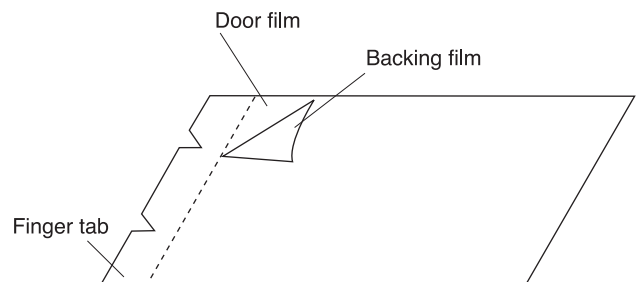

Figure C-6 Inner sealer film
3. Put sealer film on door panel. Refer to "Inner Sealer Film" and figure C-6, on how to handle the new film.
4. Catch two (2) pins of door panel on two (2) hole of upper and lower oven hinges.